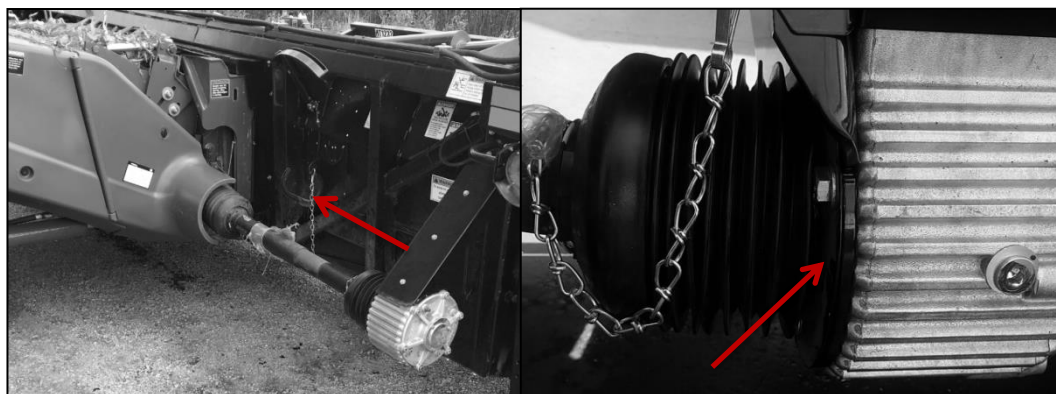

Figure 7: Driveline guard retention chain (left) and guard seal to gearbox (right).
- 6.4.2. Ensure driveline guard retention chain is secured to the guard and driveline storage bracket, and the guard seal is flush with the header gearbox (Figure 7).